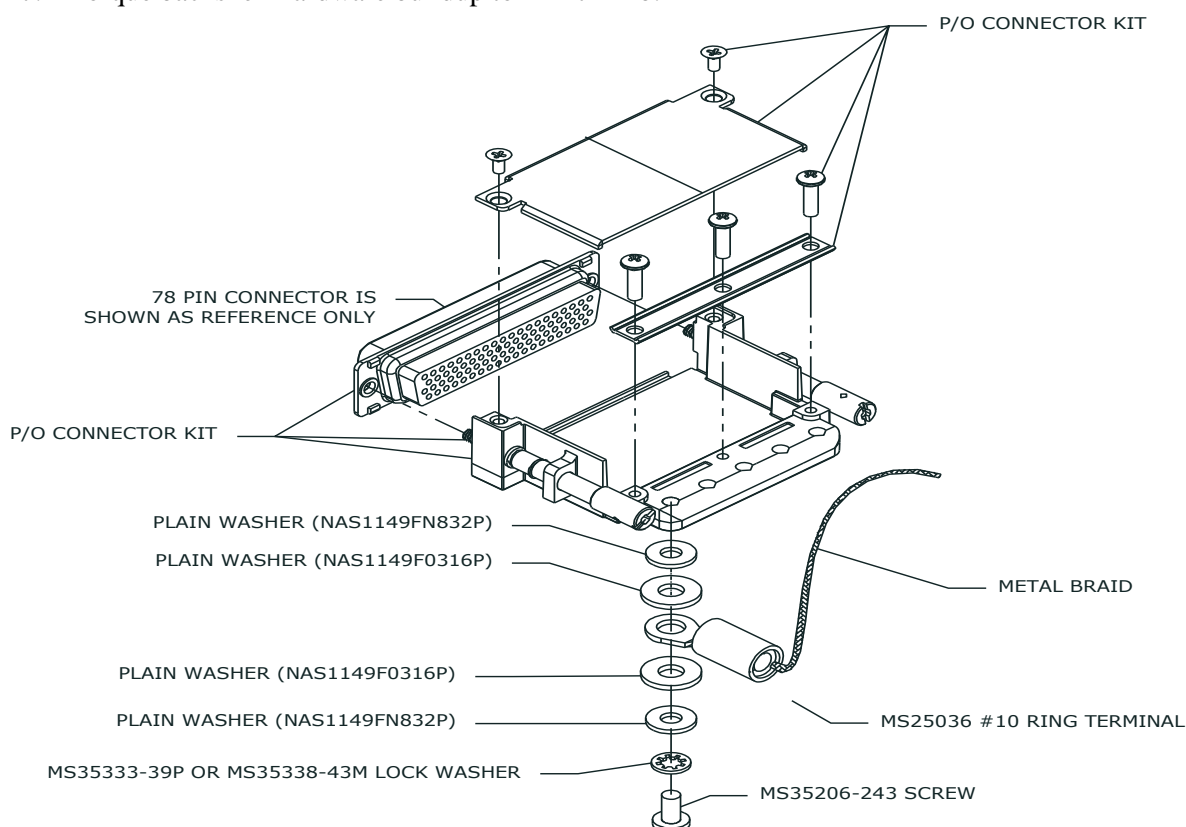

Figure 4-63 #10 Terminal Installation on Garmin Backshell
6. If using a #10 ring terminal for connection to the backshell, use the following method to connect the #10 terminal to the LRU backshell, create the following hardware buildup as shown below in Figure 4-63.